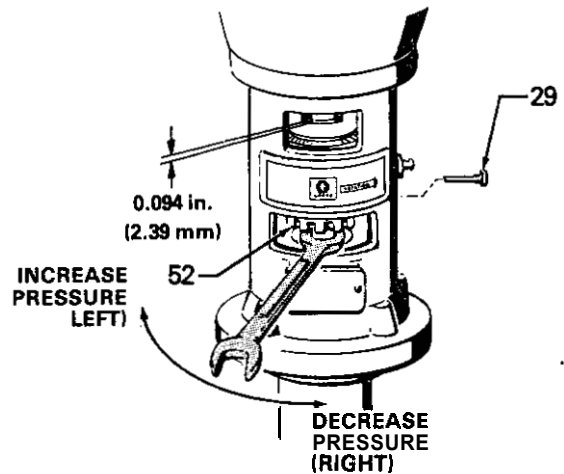
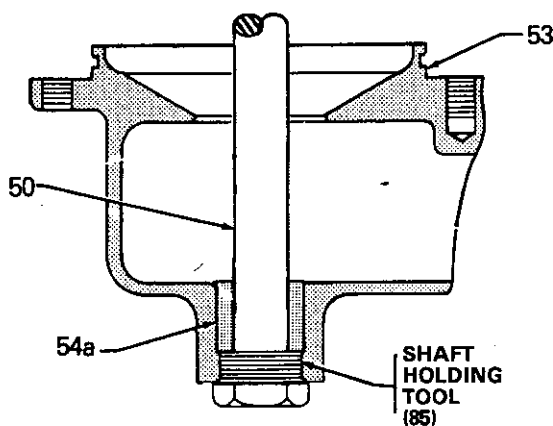

Fig 8
Fig 15
13. If the pump is mounted in a repair stand, install the shah locating tool. See Fig 15, page 11.
28. If the pump is mounted in an assembly stand, loosen the shaft holding tool. See Fig 15, page 9. Turn the bearing adjusting nut (52) seven notches to the right to raise the impellers off the bowls. See Fig 8. Now turn the pump coupler (56) to be sure the shaft rotates freely.
If the repair is being done in the stand, turn the bearing adjusting nut (52) up until the shaft rotates freely. Then raise it another seven notches to raise the impellers off the bowls. See Fig 8.
29. Insert the lock screw (29) through the pump base and into the hole in the adjusting nut without forcing it. Install the screw (39). If necessary, turn the nut a little in the same direction as pump rotation until the screw goes easily. Tighten the screw securely and reattach the lock wire (38) and crimp. Refer to Fig 8.
8. Slide the shaft (50) into the bearing (54a) in the intake bowl (53) and lock it in place with the shaft holddown tool (85). See Fig 15.